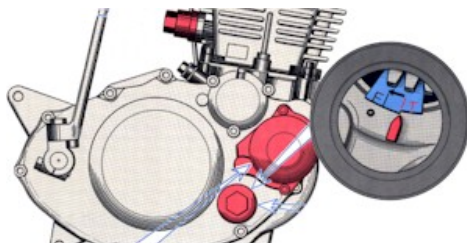

**Figure 4** Ensure correct alignment of magnet disk and sensor.
- Take care that the magnets in the disk are approximately in the same height as the sensor, see figure 4 on page 10.